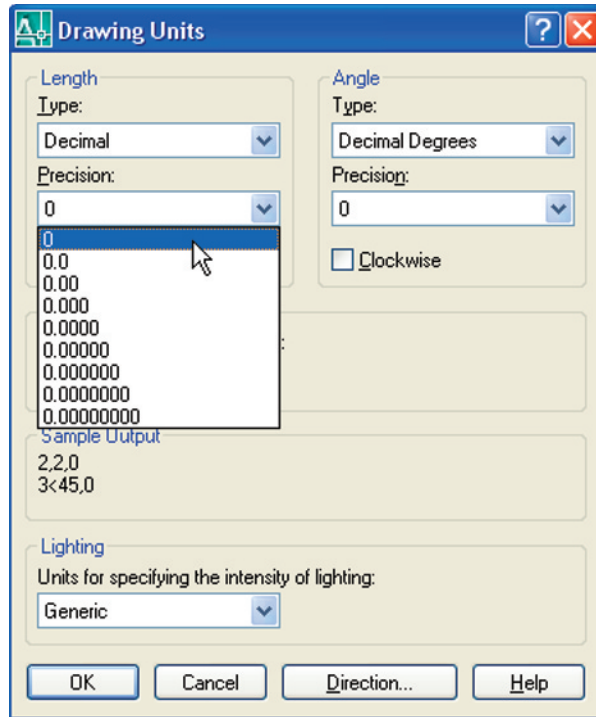

Fig. 1.25 Setting **Units** to 0
5. In the command palette enter **units** and *right-click*. The **Drawing Units** dialog appears (Fig. 1.25). In the **Precision** popup list of the **Length** area of the dialog, *click* on **0** and then *click* the **OK** button. Note the change in the coordinate units showing in the status bar.